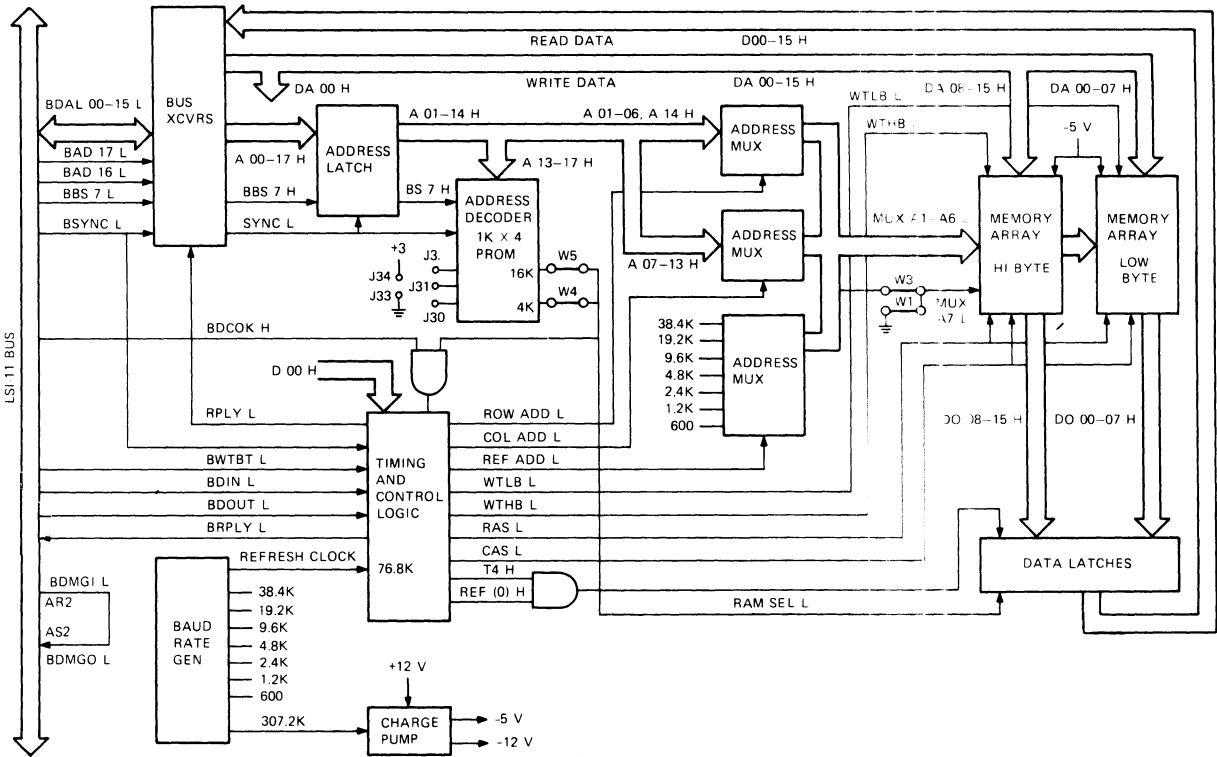

Figure 20-14 MXV11-A ROM Block Diagram
**Memory Write** — When in a memory write operation (or the write portion of a DATIO(B) cycle), the addressing portion is similar to the read cycle addressing. After the addressing portion of the cycle is completed, the master device asserts BDOUT L, and BWTBT L either goes passive (high) if a DATO (word) write cycle is performed, or remains asserted if a DATOB (byte) write cycle is performed. Word/byte select logic responds to the DATO cycle by asserting WTLB L and WTHB L for the duration of the cycle, enabling DA00-15 H to be written into the address location in all memory chips. When in a DATOB cycle, with BDAL00 L asserted, DA00 H (high byte) will cause WTHB L to be active, enabling the writing of DA08-15 H into the eight chips constituting the high (odd) byte of the memory array. Similarly, if BDAL00 L is unasserted, DA00 H will be unasserted and cause WTLB L to become active, enabling the writing of DA00-07 H into the eight chips constituting the low (even) byte of the memory. The reply logic also responds to the active BDOUT L signal by asserting BRPLY L, indicating that data have been written, thus completing the data transfer.
**Memory Refresh** — Dynamic MOS memory integrated circuits in the memory array require periodic refreshing to retain stored data. This is accomplished by forcing a RAS-only operation on each of 64 row addresses in a 4K memory, or 128 row addresses in a 16K memory. Each row address is refreshed once every 0.83 msec for 4K memory and 1.66 msec for 16K memory. On-board refresh circuits eliminate the need for refresh signals on the LSI-11 Bus. Figure 20-14 shows the signals required for the refresh operation. The refresh clock (76.8K Hz) is obtained from the baud rate generator and applied to the timing and control logic to produce REF ADD L once every 13 microseconds. REF ADD L is applied to the address multiplexer along with seven clock signals (38,400, 19,200, 9600, 4800, 2400, 1200, and 600 Hz) obtained from the baud rate generator. These signals increment MUXA1-A7 L each time REF ADD L becomes active, thus sequentially refreshing all row addresses in the memory. REF (0) H is inactive during a refresh operation to prevent memory array outputs D000-15 H being stored in the data latches. In addition, refresh logic will inhibit the assertion of BRPLY L during a refresh operation.
**Addressing** — A master device can address any 16-bit word in the ROM by placing the appropriate address bits on the BDAL01-13 L lines during the addressing portion of the DATI bus cycle. Figure 20-14 shows the data/address lines and bus interface signals required for accessing the read-only memory.